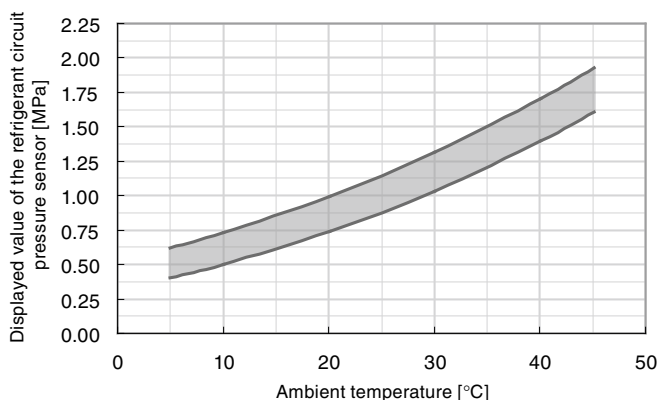

Fig. 4-28 Ambient temperature and refrigerant circuit pressure
- (1) Leave the Thermo-Chiller not operating for 24 hours to make the ambient temperature and the temperature inside the Thermo-Chiller the same.
- (2) Check the ambient temperature.
- (3) Check "PL: Refrigerant circuit pressure on the low pressure side" value in the "Check Monitor Menu".
- (4) Check if the value at the cross point of the ambient temperature and the "PL: Refrigerant circuit pressure on the low pressure side" value is within the range (the shaded part) in Fig. 4-28. If the cross point is within the range, it means that the pressure sensor is operating correctly.